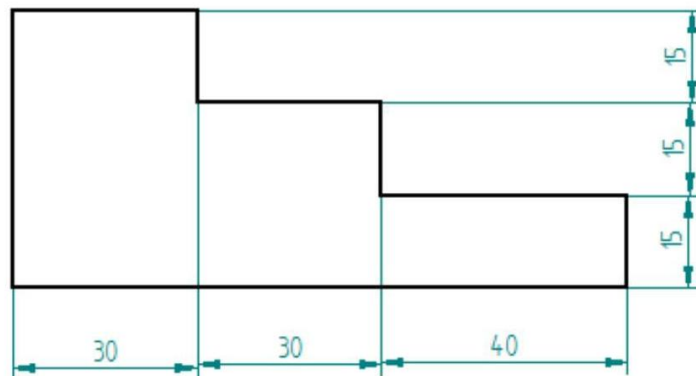

Fig. 3
- Draw Fig. 3 to 1:1 scale, 1:2 scale & 2:1 scale.
- Copy Fig. 3 to 1:1 scale and dimension it using both Aligned system & Uni-directional system.